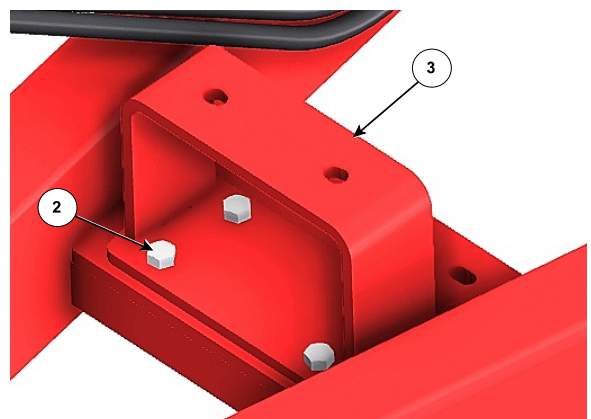

Figure 5: Remove the Fasteners & Bearing Support 224293C
9. At the front hitch, remove the fasteners (2) holding the bearing support (3), see *Figure 5*.
10. Remove the bearing support (3), see *Figure 5*.